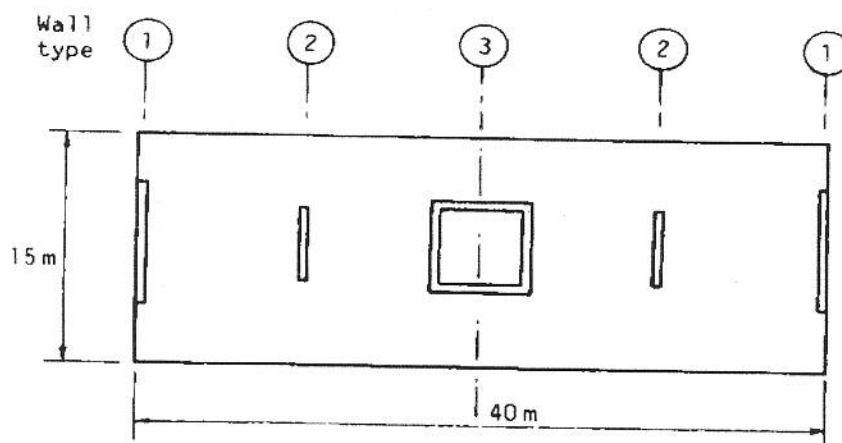
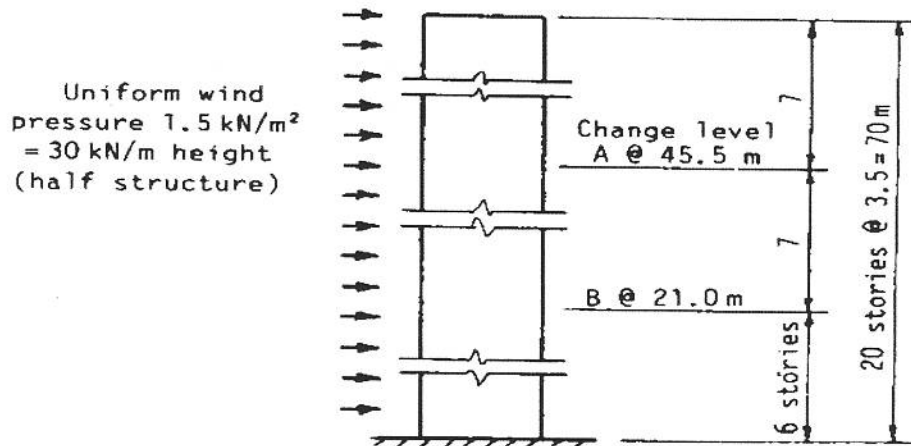

Fig. 1: Plan of a shear wall structure
Fig. 2: Elevation of the shear wall structure
2. The plan and elevation of a shear wall structure are shown in Fig. 1 and Fig. 2, respectively. The structure is 70 m high (20 stories, each of 3.5 m height). The five shear walls include two symmetrical pairs (Types 1 and 2) and a central core (Type 3). Two change levels, A and B, divide the structure into three regions. The wall dimensions and inertias are given in Table 1. Determine the bending moment in wall Type 2 at change level B due to uniform wind pressure of 1.5 kN/m^2 . Assume reasonable values of missing data, if any. (25)